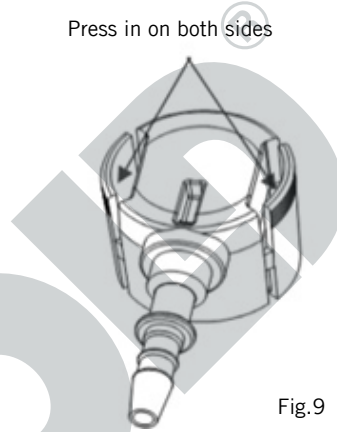

Fig.9
11. Caution: When the “fresh keg” is empty, you must remove the adapter, which is reusable. Always press in on both sides of the adapter to release the adapter; otherwise, it could be damaged (see Fig. 9).